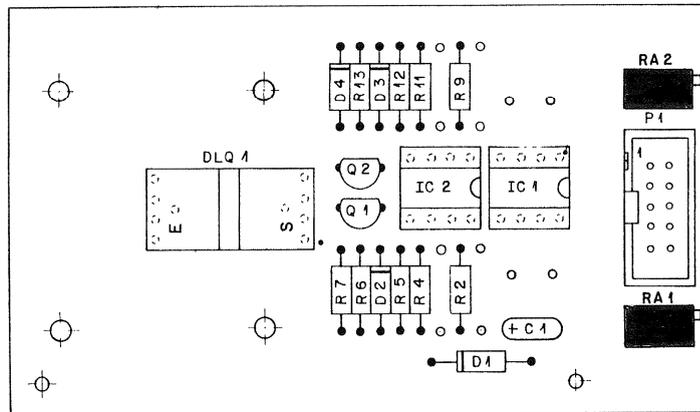

Fig. 10 Move sensor board 1.820.770.82
- Align with RA1 and RA2, Fig. 10.